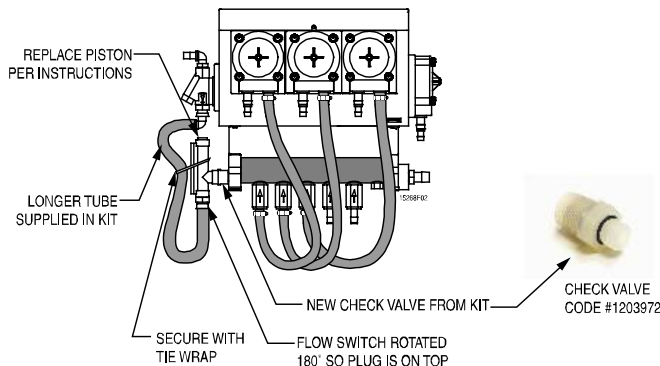

Figure 1. Replacing Check Valve
6. Hand-tighten flow switch onto new check valve so flow switch is oriented as shown in Figure 1.